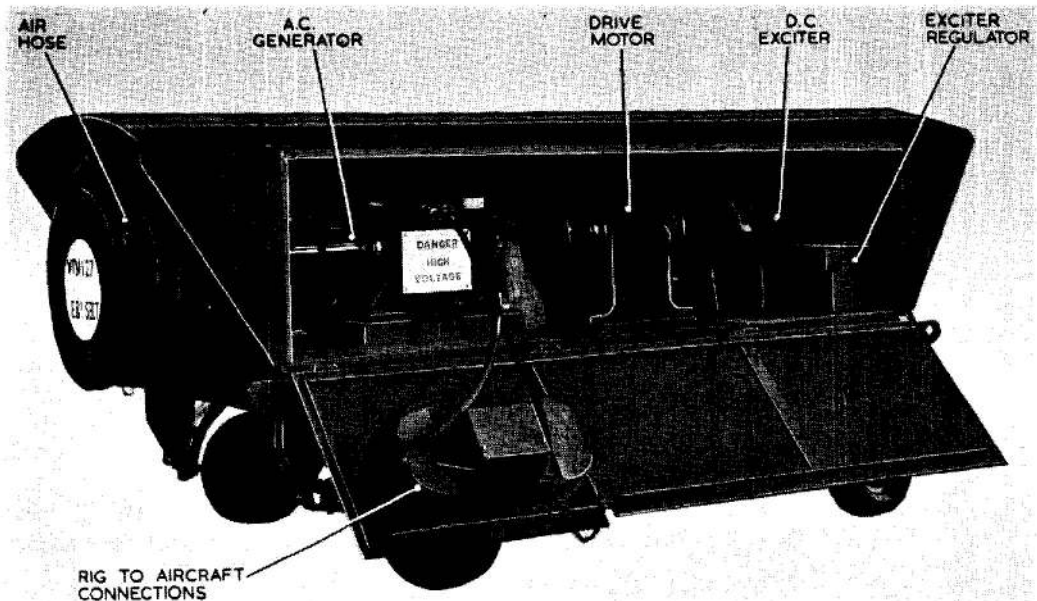
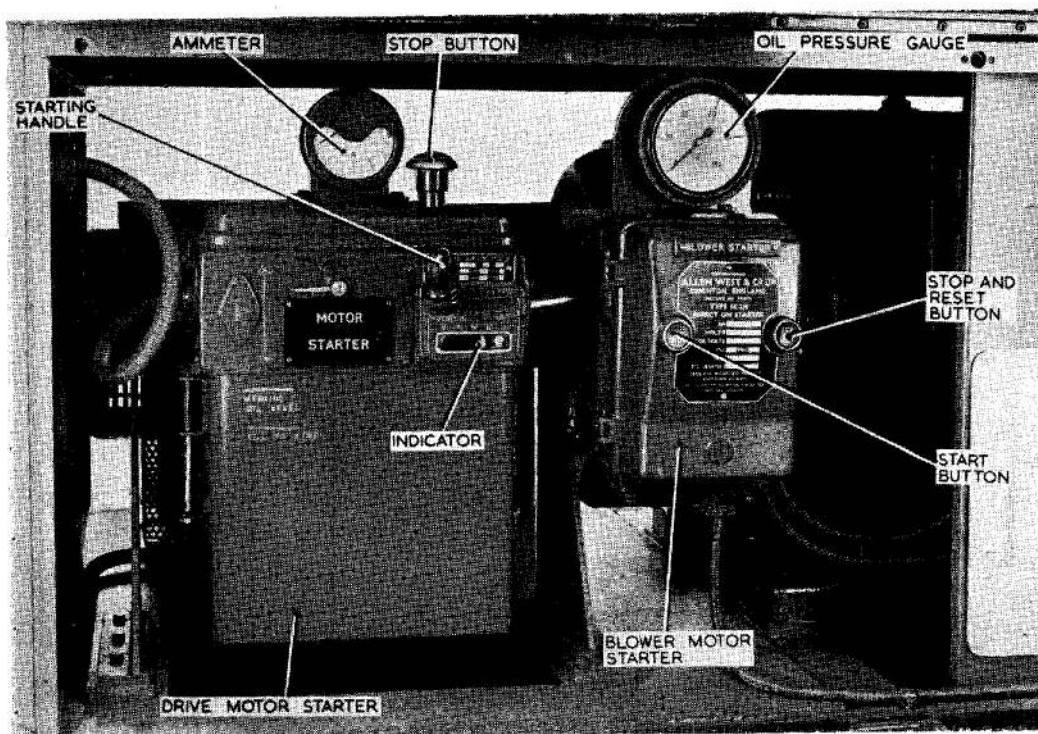
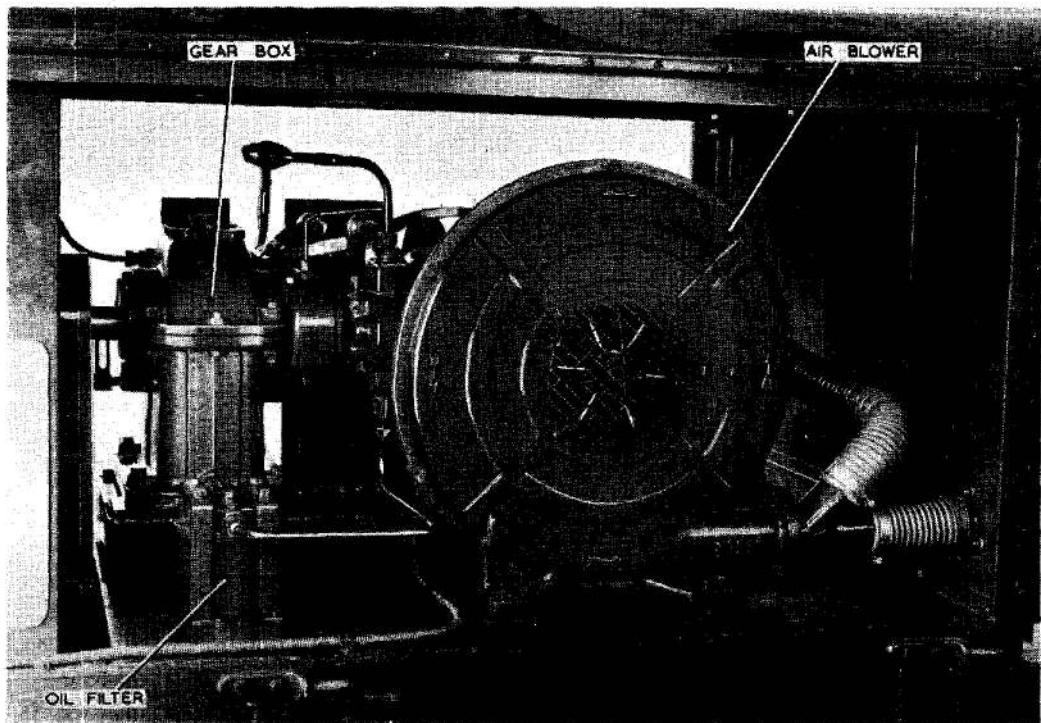

Fig. 2. Test trolley (rear view)
Fig. 3. Motor starters
Fig. 4. Gear box and air blower
4. The 3000 rev/min. synchronous induction drive motor (fig. 2) develops 25 h.p. at unity power factor. The star-connected rotor windings are supplied by the d.c. exciter and revolves in the field of the delta-connected stator windings which are excited from the 415V, 3-phase, 50 c/s mains supply.
6. The drive motor starter (fig. 3) is a combined oil-immersed starter circuit breaker and 3-phase hand-wheel operated rotor starter. The 3-phase rotor windings are connected via sliprings to three stepped resistor units which are connected in star configuration via the starter connections.
10. A Crofts Type MPT3 gearbox (fig. 4) is interposed between the synchronous induction drive motor and the a.c. generator. The gears are of the continuous double helical type and are mounted on shafts supported on roller bearings.
11. Mounted on the gearbox is an oil pump which circulates oil to lubricate the gearbox and the bearings of the a.c. generator. An oil pressure indicator is mounted above the blower motor starter (fig. 3), during running pressure in the system should not fall below 50 lb/in². The lubrication system is equipped with an oil filter which is located alongside the gearbox (fig. 4).
12. Forced air cooling is provided for the a.c. generator on the rig and for the power supply components located in the aircraft. The air blower (fig. 4) which is driven by an induction motor, delivers air to the aircraft components via the air hose (fig. 2.) The end of the air hose must be inserted into the duct at the base of the aircraft fin before operating the test rig in conjunction with the aircraft power supply equipment.
13. An Allen West 3-phase starter Type SC2N (fig. 3) is used for starting the blower motor. Magnetically operated over-current relays equipped with oil dashpots protect the circuit against the effects of high current.